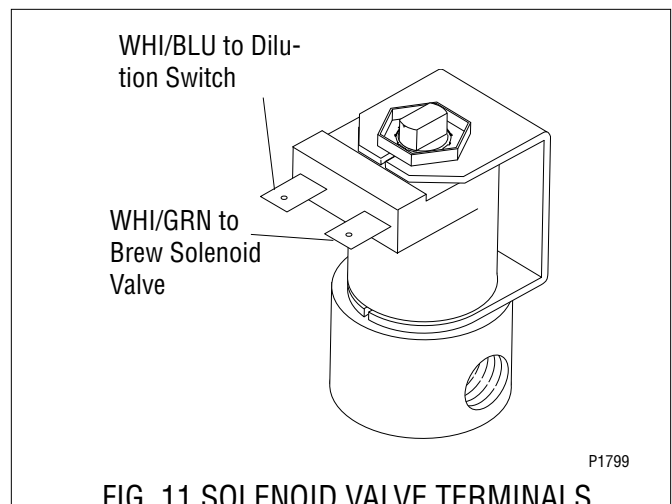

FIG. 11 SOLENOID VALVE TERMINALS
7. Refer to FIG. 11 when reconnecting the wires.